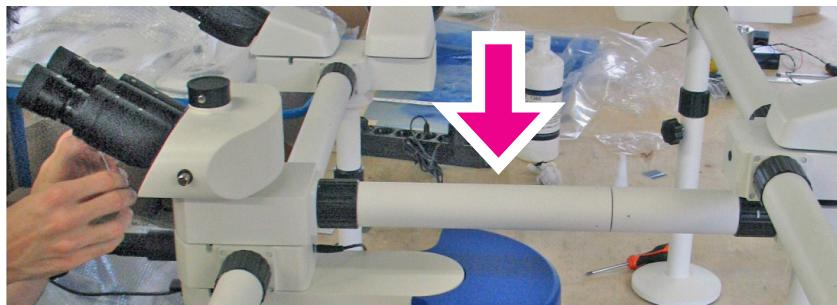
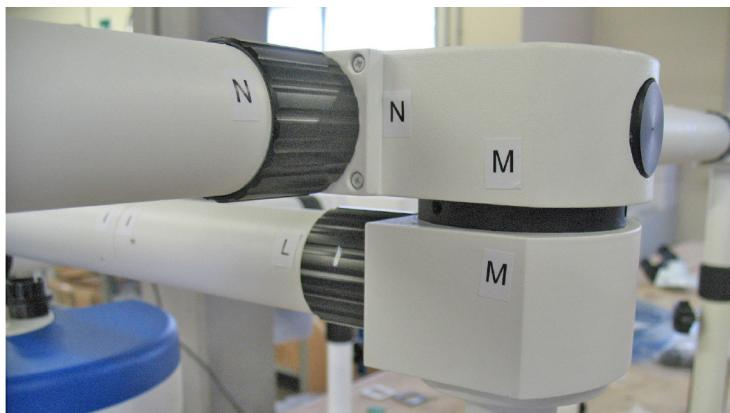

Fig. 11
Fig. 12
- 2.13** (**only B-1000Ti-10**) mount the second splitter attachment over the pointer attachment, then fix the extension tube rotating the black ring nut (always following the coupling catters): Fig. 11 and Fig. 12